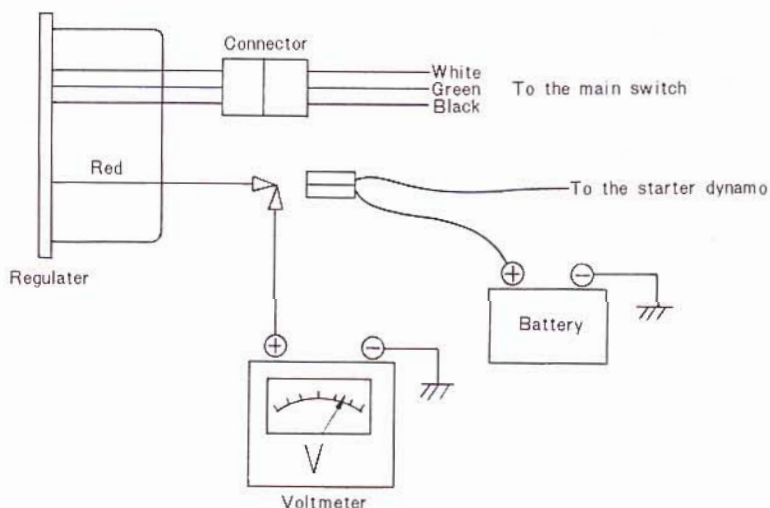

Fig. VII-6-1
- Start the engine and keep it running at 2,500 rpm. Your regulator is correct if the tester reads 15.8-16.5 V. (Fig. VII-6-1)